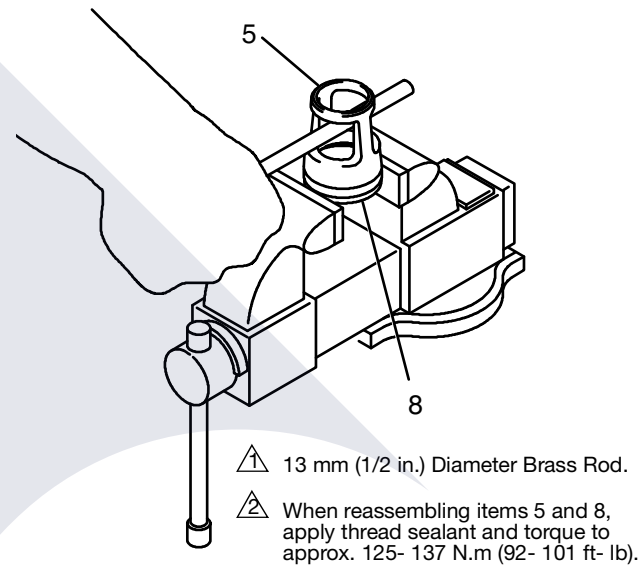

Fig. 9
14. Remove the displacement rod (1) from the vise and inspect it for scratches and scoring by running a finger over the surface.
15. Place the piston seat and guide assembly in the vise and close the jaws on the flats of the seat (8) just tight enough to hold the part. Slide a brass rod through the openings in the piston guide (5) and unscrew it from the seat as shown in Fig. 9. Remove the piston seal (7).
1. Install the intake valve seat (11) in the intake housing (17), with the large bevel of the seat facing the bottom of the housing. Lubricate the seal (39*) and install it in the housing. Set the intake housing aside.
2. Install the piston seal (7*) on the piston seat (8). Place the seat in a vise and close the jaws tight enough to hold it securely, without placing too much stress on the part. Apply thread sealant to the threads of the seat and the piston guide (5). Screw the guide onto the seat (8). Tighten using a brass rod until the guide is securely seated, approximately 125- 137 N.m (92- 101 ft- lb). See Figs. 9 and 11.
3. Place the flats of the piston (6) in a vise. Apply thread sealant to the threads of the rod (1) and the top threads of the piston. Set the piston seat/guide assembly onto the piston.
4. Screw the rod (1) into the piston (6) hand tight. Torque the rod to 459-481 N.m (338-354 ft- lb). There will be a small gap between the top of the piston (6) and the shoulder of the rod (1).
5. Apply thread sealant to the bottom threads of the piston and the top threads of the priming piston rod (12). Using an adjustable wrench on the flats of the rod, screw the rod into the piston. Torque to 125-137 N.m (92-101 ft- lb). Be careful not to create burrs on the flats of the rod.